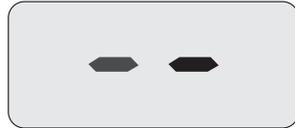
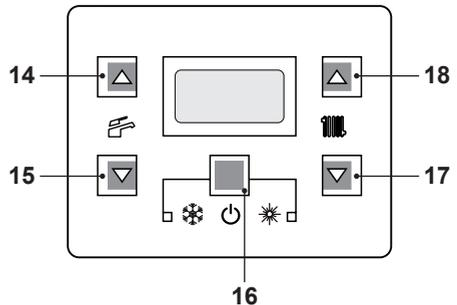

Fig. 7.3
Fig. 7.4
- Electrically power the boiler by switching on the double pole isolation switch. The LCD will display, the  symbol (Fig. 7.3).
- Press the 16 key for 2 seconds until both  and  symbols appear on the display (Fig. 7.4).
- Switch off the boiler by pressing the 16 (Fig. 7.4) key for 2 seconds until the  symbol appears on the LCD display (Fig. 7.3).